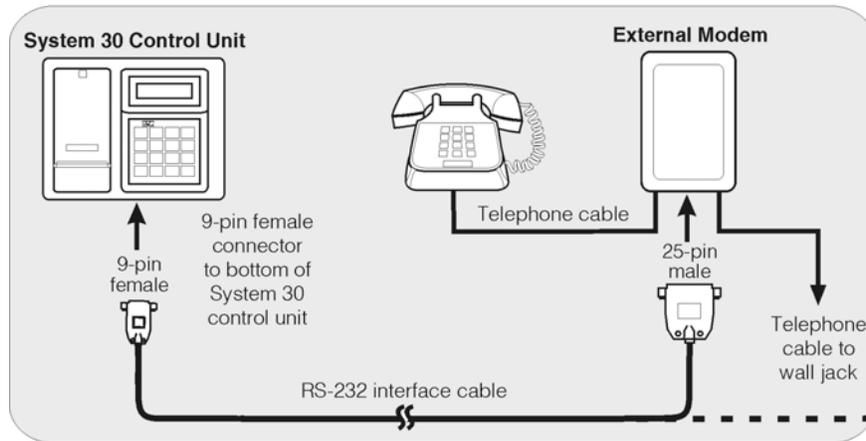

Figure 9. Not using the optional ComSwitch
Connect the System 30 Timer to the modem as shown in Figure 9. Note the two different configuration possibilities, depending on whether or not the optional ComSwitch will be used.
**NOTE:** If the telephone handset is picked up while the modem is in use, the connection will fail. HME therefore provides an optional ComSwitch, which allows the phone line from the wall jack to be shared between the telephone and the modem so they do not interfere with each other. If you pick up the telephone handset to make a call while the modem is in use, you will get a busy signal. Figure 9 and 10 show how to connect the ComSwitch to the modem, telephone and line from the wall jack.
If the optional **ComSwitch will not be used**, connect the cables as follows. Refer to Figure 9.